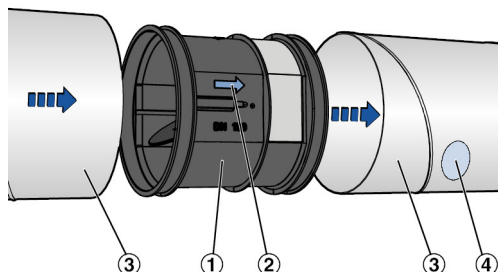

Fig. 7: Installing VFL
2. ► Insert VFL (Fig. 7/1) into the duct (Fig. 7/3).
The arrow indicates the correct airflow direction. (Fig. 7/2) .
4. ► Use the provided stickers to indicate the position of the controllers. You can write on the stickers and affix them to the duct for people to see (Fig. 7/4)